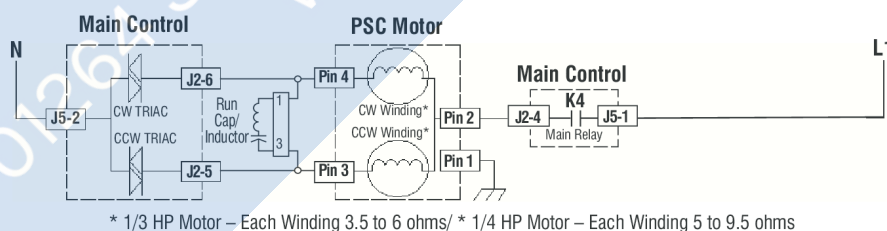

Figure 5 - PSC Motor Strip Circuit (shown in ON position)
**NOTE:** Refer to Figure 5, "PSC Motor Strip Circuit" on page 15 for tests and measurements.